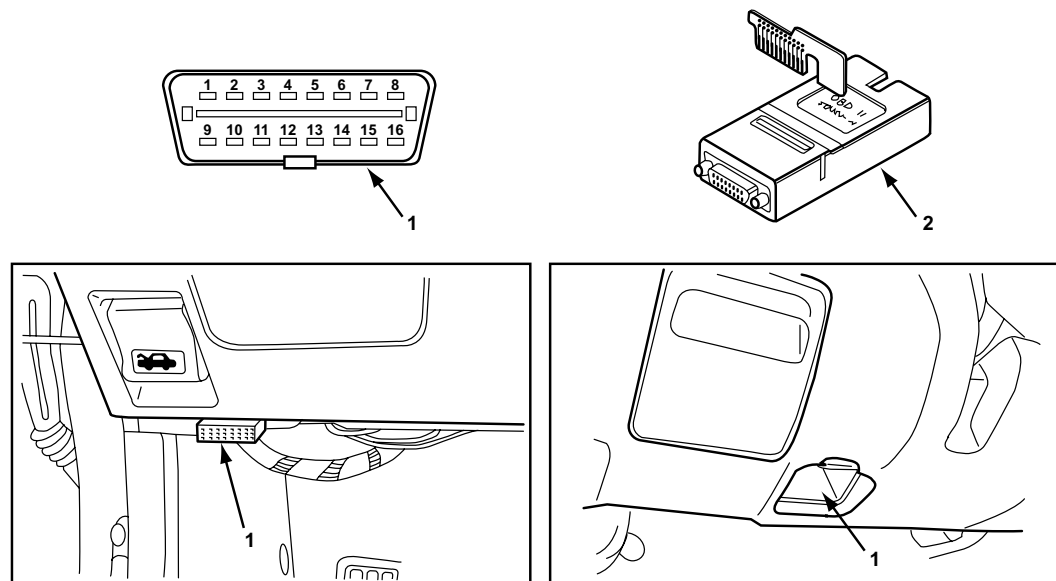

Figure 15-31 16-pin OBD-II connector and OBD-II adapter with Personality Key™ device and common connector locations
- Use the OBD-II adapter with the specified Personality Key™ device (Figure 15-31).